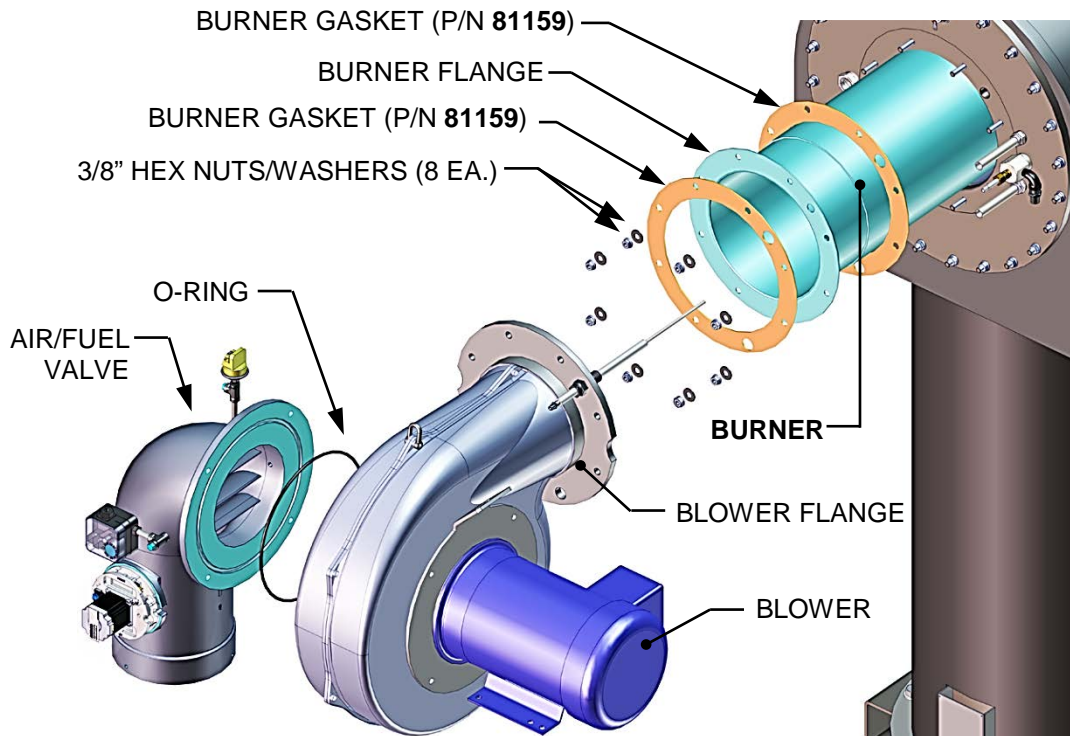

Figure 4-6: Burner Assembly – Exploded View
19. Remove the Blower from the Burner by pulling outward. Be careful not to allow it to swing and damage other equipment components. Refer to the exploded view in Figure 4-6.
23. Remove and replace the two (2) Burner Gaskets (see Figure 4-6) and clean the gasket surface on the burner front plate.
24. To reassemble, begin with the Burner assembly and reinstall all the components in the reverse order that they were removed. The Burner may have a nut installed at the base position to keep the Burner level while installing the Blower (Figure 4-6).